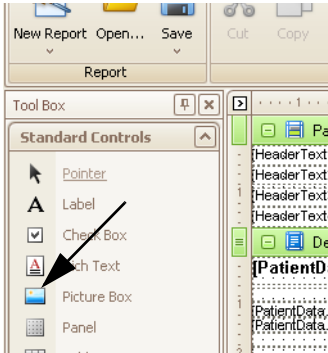

Fig. 10-3: Picture Box button
- Select the **Picture Box** (Fig. 10-3:).